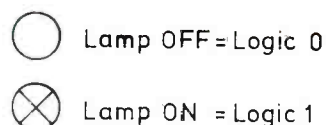

Figure 2
- What hexadecimal number is represented by the display in Figure 2?